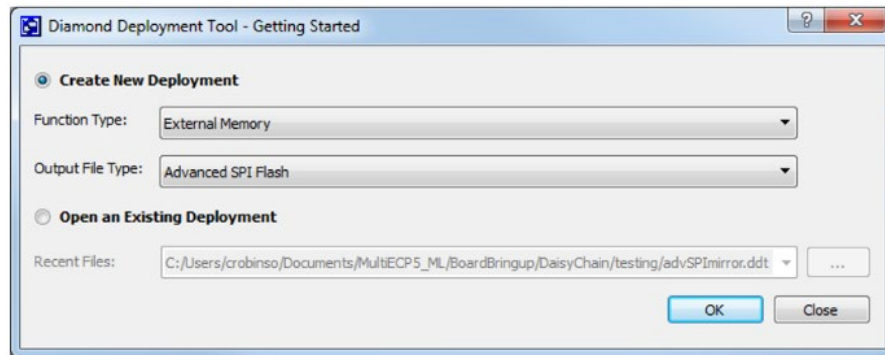

Figure D.6. Diamond Deployment Tool
8. In the **Diamond Deployment Tool**, create a new deployment setting as shown in Figure D.6.